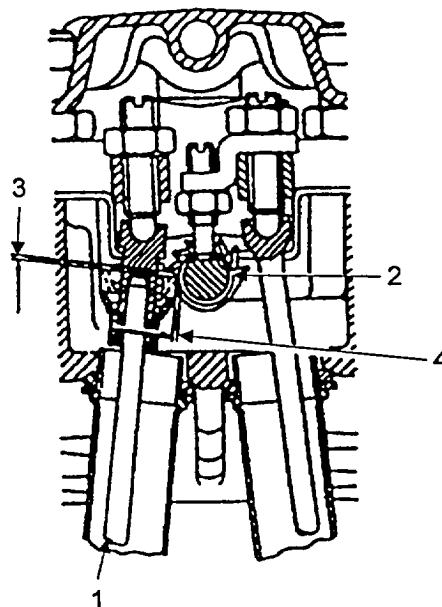

FIGURE 5-33. PUSHROD ADJUSTMENT
**Check clearance of complete pushrod (Figure 5-33, Item 1) and pinion (2).**
a. Use feeler gauge to check that clearance (3) between socket of complete pushrod (1) and pinion (2) is 0.039 inch (1.0 mm).
b. Check that clearance (4) is 0.039 Inch (1.0 mm).
c. Clearances can be adjusted by adjustment complete pushrod (1) for clearance (3) and adjusting rocker shaft for clearance (4).